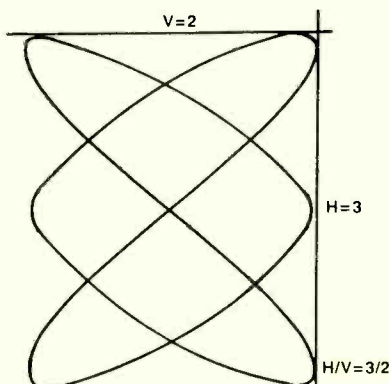

FIGURE 7
6. 100Hz. (See Figure 7.) The horizontal